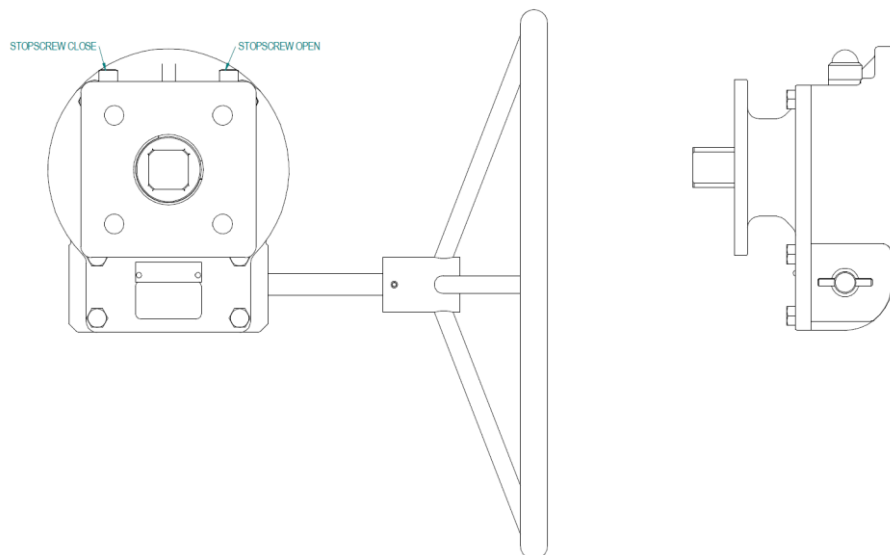

Figure 10: left-handed ILG/S gearbox stopscrew adjustment
5. Turn the handwheel counterclockwise to put the gearbox (and valve) in fully open position. When the full open position can not be achieved, loosen the stopscrew-open of the gearbox (see figure 10) and check the travel stop adjustment of the actuator. Continue turning the handwheel until the valve is fully opened.
8. The actuator must also return (the valve) to its fully closed position. When the fully closed position can not be achieved, loosen the stopscrew-close of the gearbox (see figure 10) and check the travel stop adjustment of the actuator.